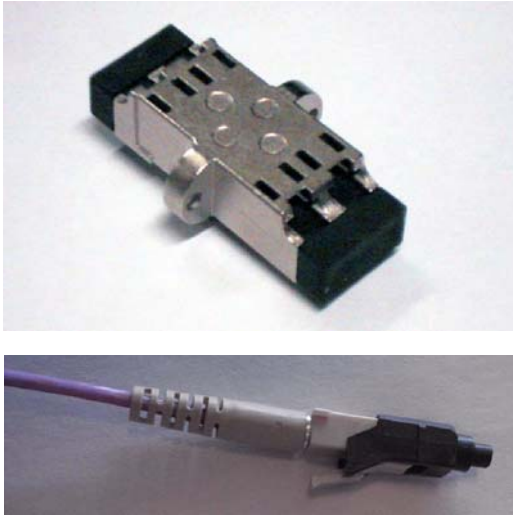

Figure 3
5. Leave the connector and coupler device protective caps in place until just prior to mating the connector with the coupler device. See Figure 3.